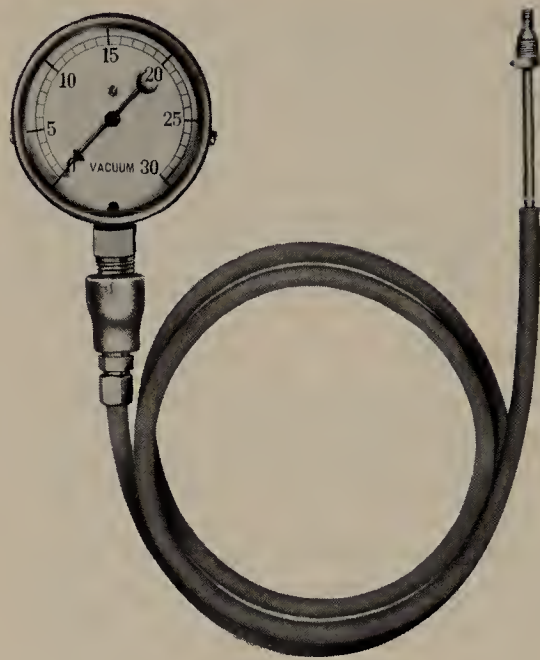

FIGURE 2.13 Vacuum gauge.
2. Vacuum Gauge. The vacuum gauge is really a pressure gauge. The type of vacuum gauge used in engine service contains a bellows or diaphragm which is linked to an indicating needle on the dial face (Fig. 2.13). When the vacuum gauge is connected to the engine (to the intake manifold), the vacuum produced by the engine causes the needle to move and register the amount of vacuum. This action results because the vacuum causes part of the air in the bellows or back of the diaphragm to pass into the engine. Then, air pressure causes the bellows or diaphragm to move, thereby causing the needle to move. The amount that the needle moves depends on the amount of vacuum. The amount of vacuum that a running engine can produce is a measure of engine condition. The vacuum gauge is thus a good diagnostic tool to determine the actual condition of the engine. This is discussed in detail in a later chapter.